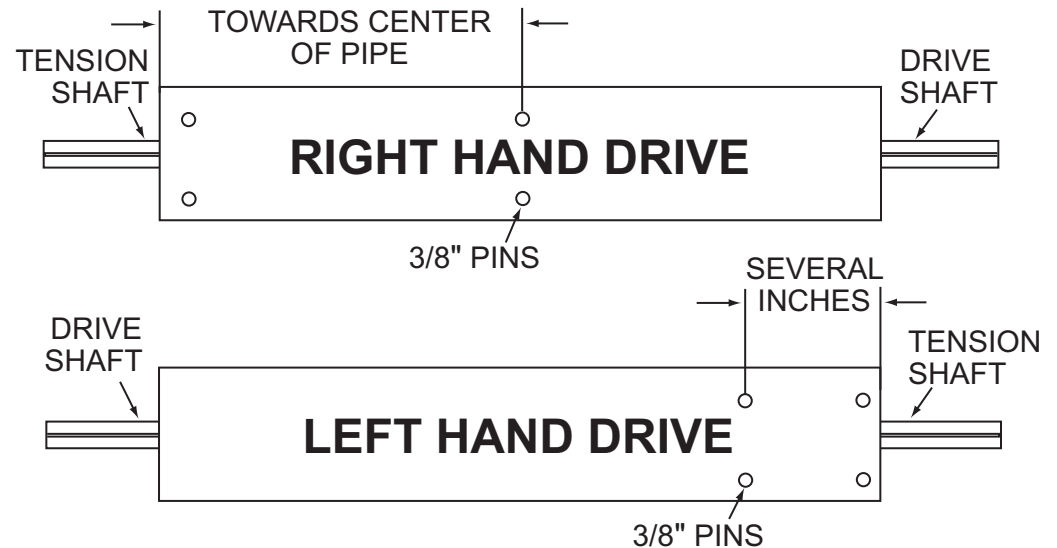

Figure 8
- At tension end of barrel the bearing assembly is pinned to the barrel, as shown in Figure 8.